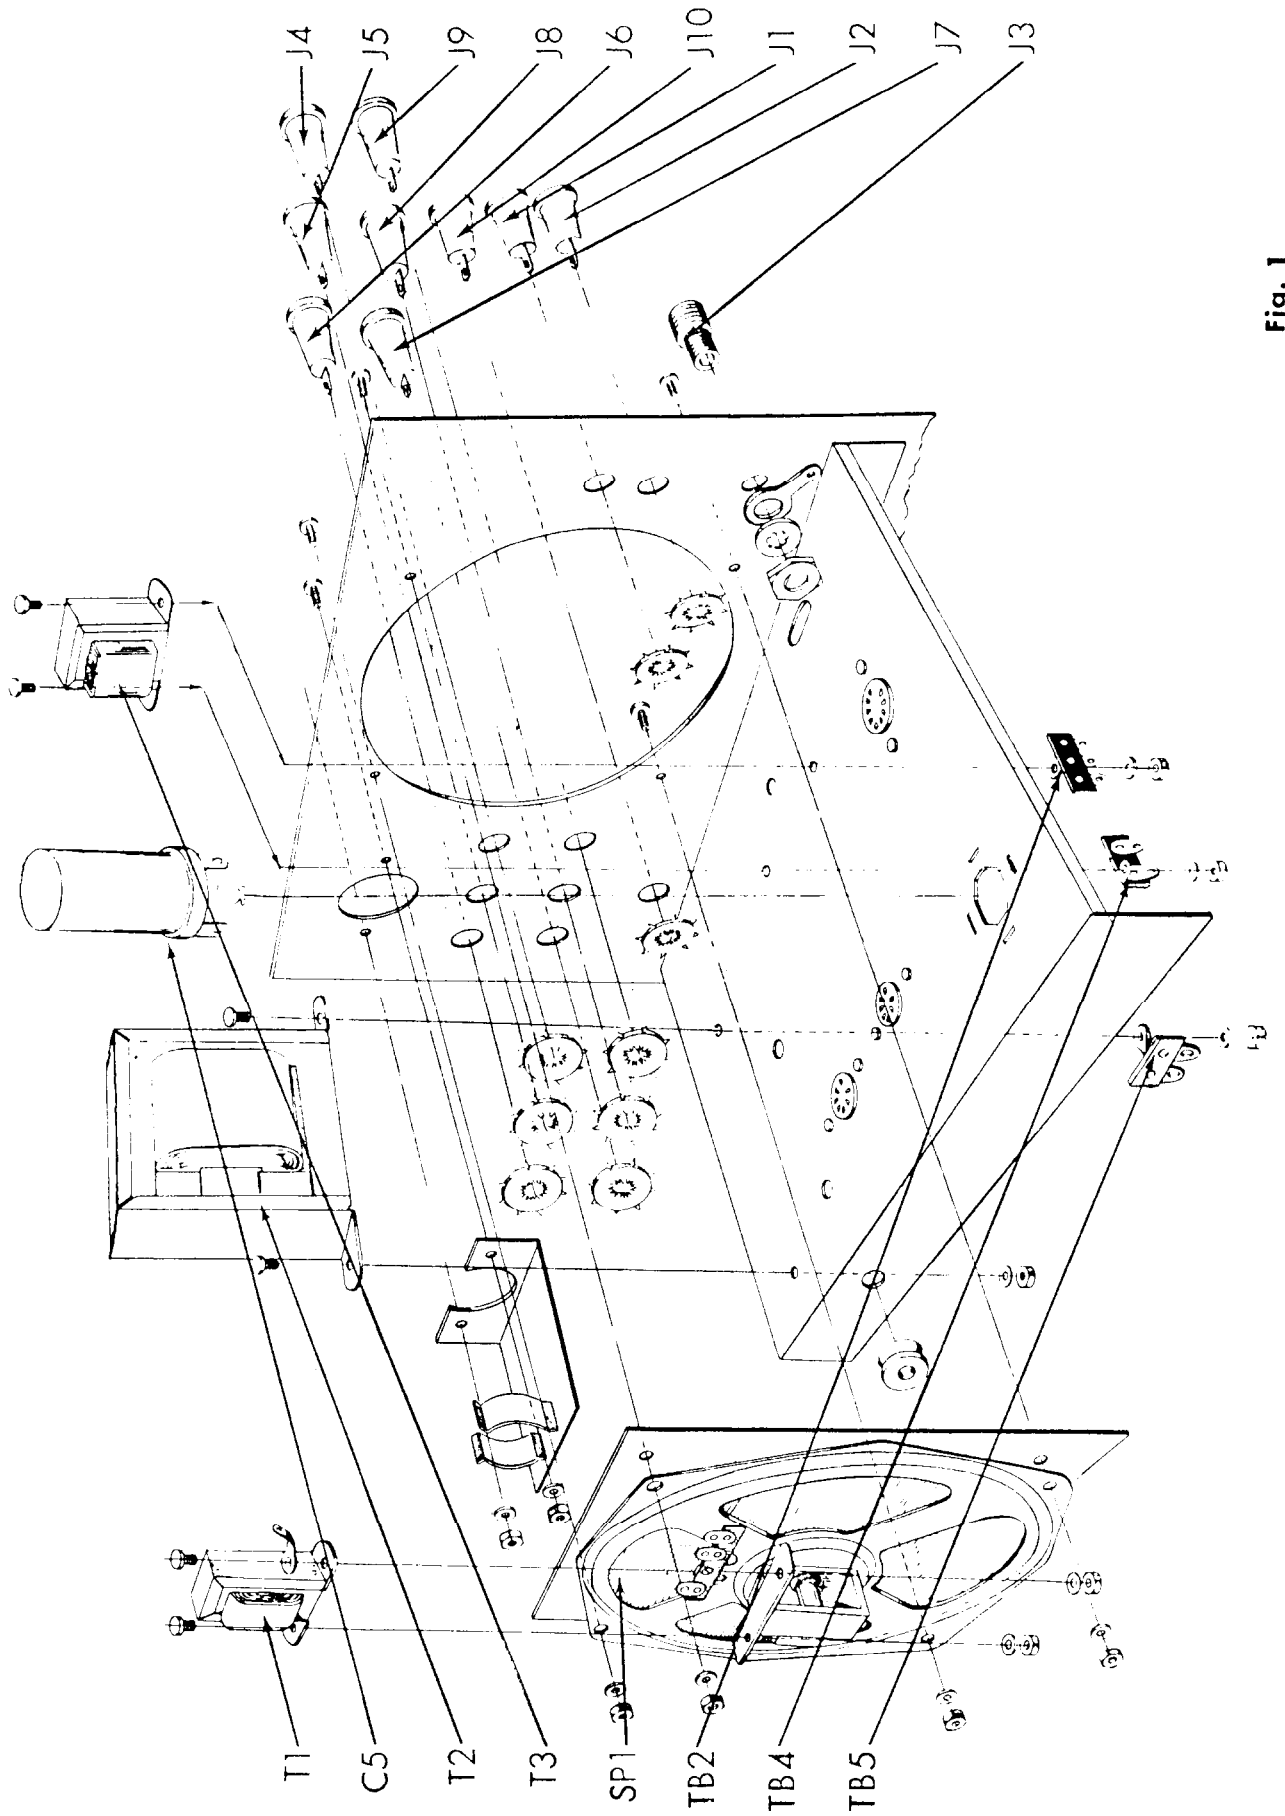
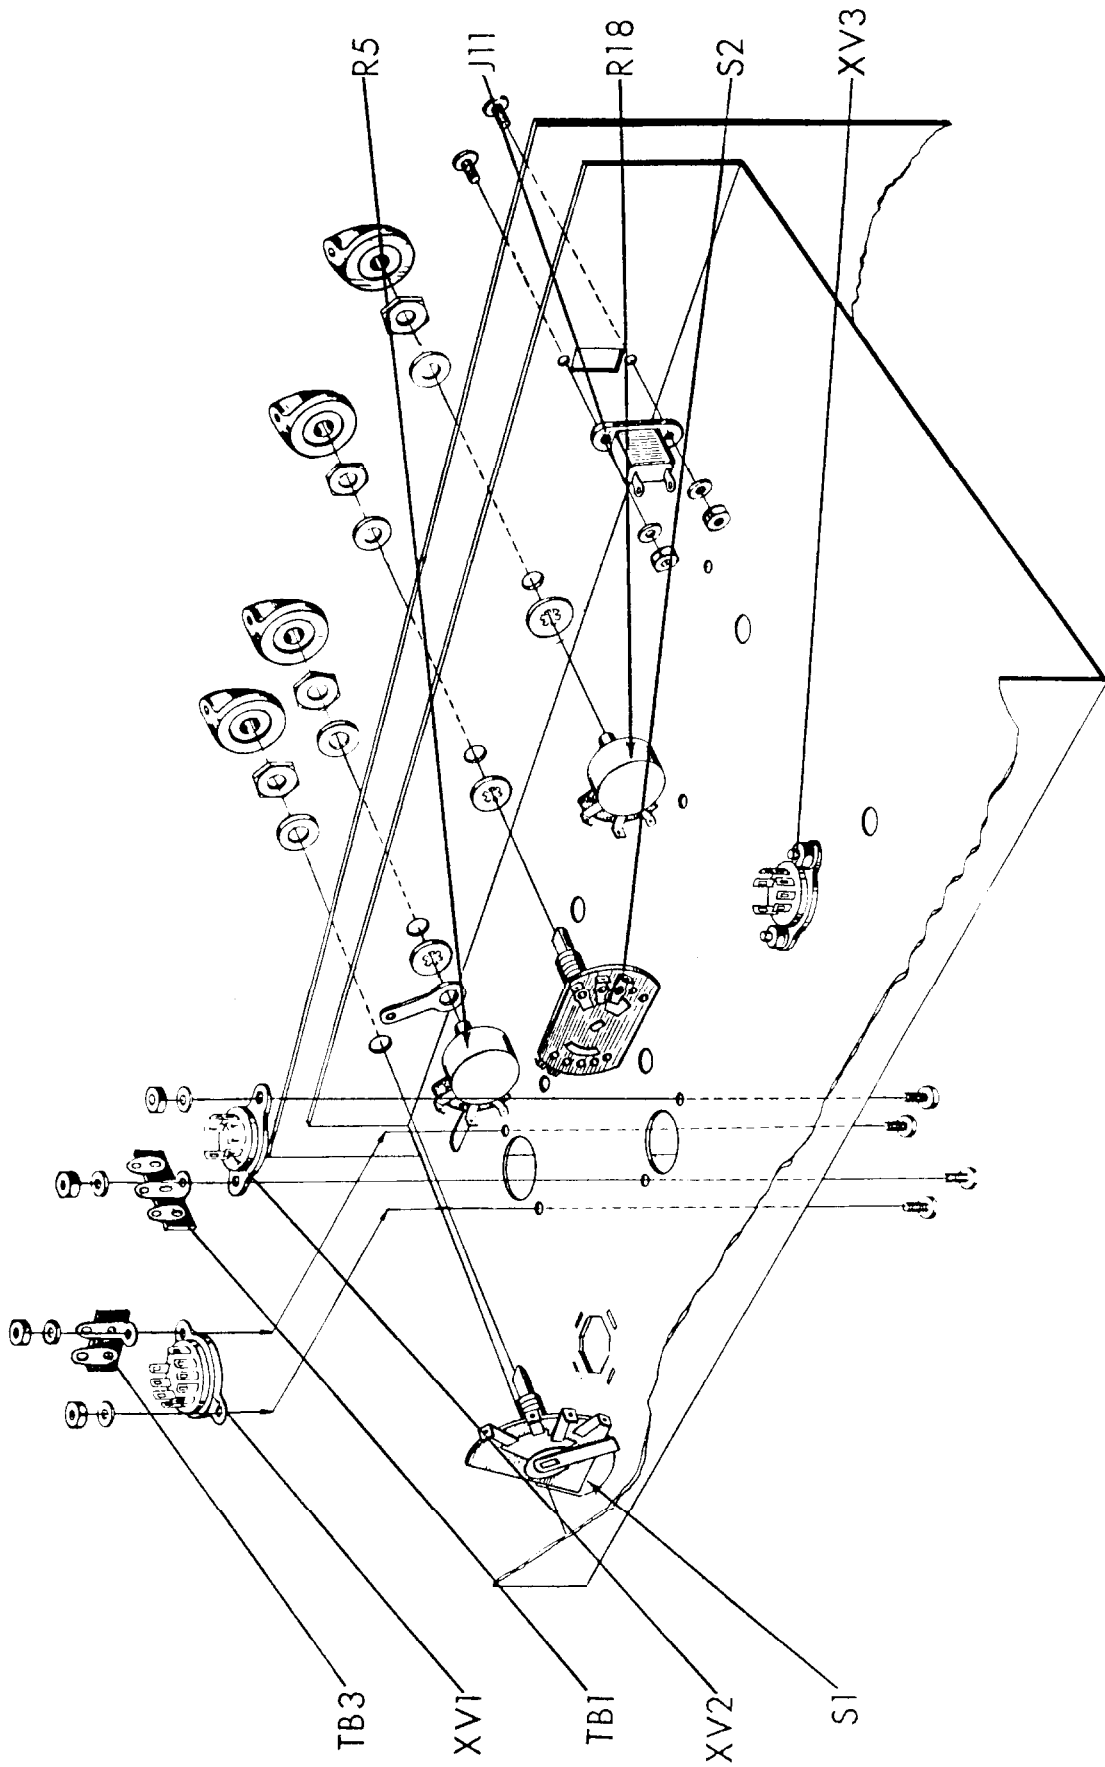
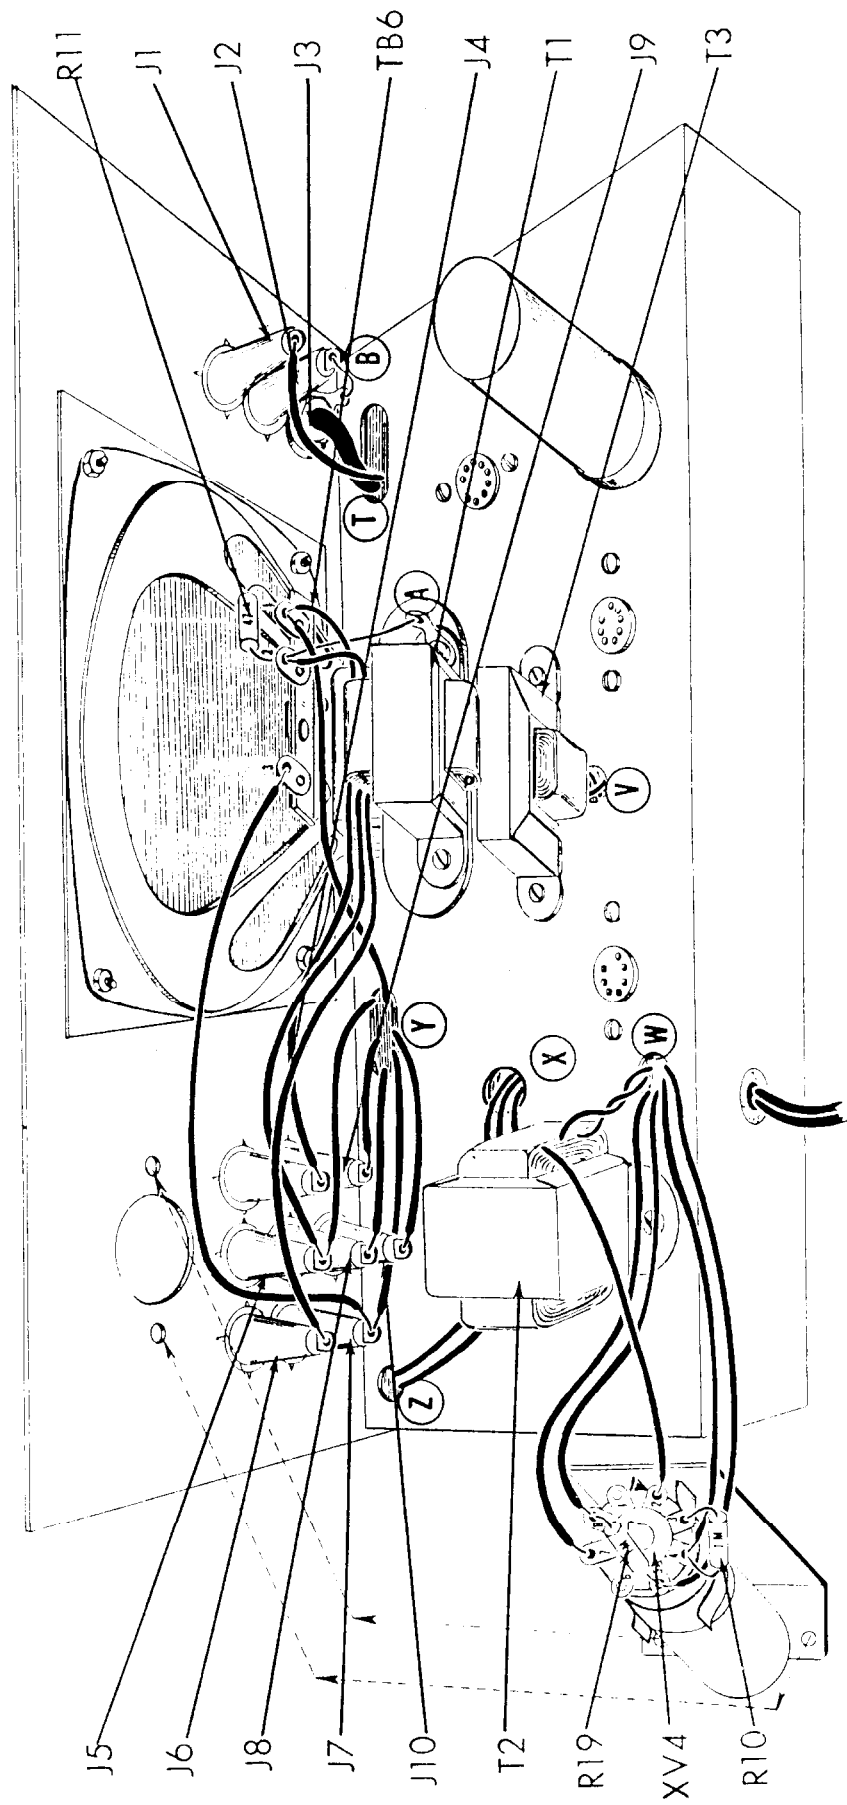
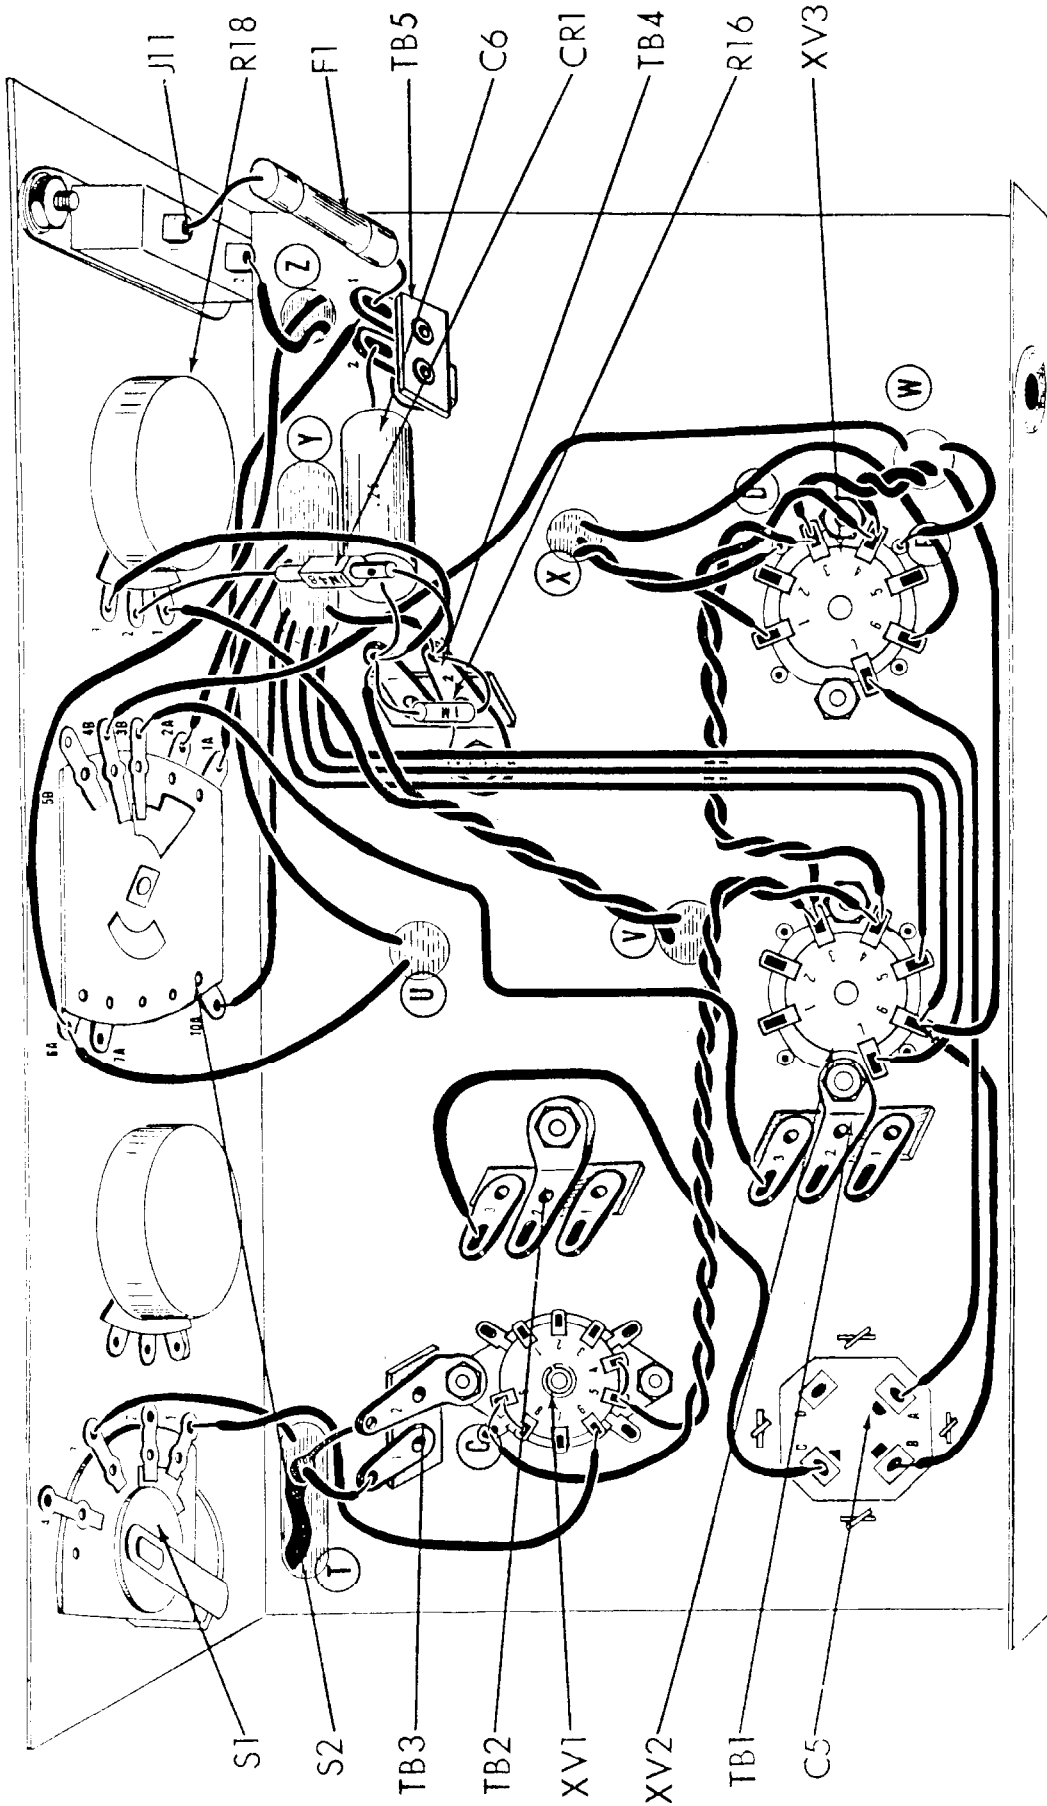

Fig. 1
Fig. 2
Fig. 3
Fig. 4
1. () Fig. 1. From the front side of the panel, push a red pin jack, J1, through the top of the two holes marked AUDIO INPUT. From the rear side of the panel, force a star washer over the pin jack, with the rounded (convex) side facing away from the panel. Push the star washer over the pin jack until the pin jack is secured against the panel.
2. () Fig. 1. Similar to the above, mount the black pin jack, J2, directly below the red one. In a similar manner, on the left hand side of the panel, mount OUTPUT TRANSFORMER red pin jacks, J4, J5, J6; mount TEST SPKR. GND, TEST AMP, VTVM SCOPE black pin jacks, J7, J8, J9, J10. Use one star washer over each to secure to panel.
3. () Fig. 1. Mount RF input connector, J3, as shown. Use ground lug, 2 lock washers and nut supplied with connector. Do not use fiber washers supplied with connector.
4. () Fig. 1. Mount the bracket to hold the eye tube as shown. Use two 6-32 screws, two #6 lockwasher and two 6-32 hex nuts. For the convenience of drawing, this socket is shown pushed away from the panel in Fig. 3. As shown in Fig. 3, push the 1629 eye tube V4, gently but firmly, into the bracket with the front of the tube flush against the panel. Push an octal socket over the pins of the tube, noting the key in the center of both tube base and socket. The tube should be turned in its bracket until the key faces directly downward.
5. () Fig. 1. Mount the speaker, SP1, on the front panel using four #6-32 screws, four #6 lock washers and four #6-32 hex nuts. Between the speaker and the panel, place the speaker grill. The screws holding the speaker must first pass through the holes in the grill.
6. () Fig. 1. Mount the output transformer, T1, to the bracket on top of the speaker. The leads on the transformer face the panel and speaker. Use two #6-32 screws, two #6 lock washers and two #6-32 hex nuts. Under one of the screws, mount a #6 ground lug as shown.
7. () Fig. 1. On the top of the chassis (not attached to the panel as yet) mount power transformer, T2, as shown. As shown in Fig. 3, the black leads face the side of the chassis and all the other leads face the center of the chassis. Use two #6-32 screws, two #6 lock washers and two #6 hex nuts. Under one of the lock washers, mount a 1 post left with ground terminal board, TB5 (under the chassis), as shown in Fig. 4.
8. () Fig. 1. On the top of the chassis mount current transformer, T3, as shown. The red leads go through the hole at the center of the chassis. Use two #6-32 screws, two #6 lock washers and two #6-32 hex nuts. Under one lock washer mount a two post with ground terminal boards, TB2; under the other lock washer mount a one post left with ground terminal board, TB4, as shown in Fig. 4.
9. () Fig. 1. On the top of the chassis mount electrolytic capacitor can C5 as shown. Note the direction (half moon, square and triangle near the lugs) for mounting capacitor in Fig. 4. Insert the mounting tabs into the slots in the chassis and twist the tabs somewhat less than a quarter turn. DO NOT twist the tabs excessively or they will shear off. Solder the tab without a hole to the chassis at its slot.
10. () Fig. 1. Push the 3/8 rubber grommet through hole on rear apron of the chassis.
1. () Fig. 2. Mount 9 pin miniature tube socket XV1 as shown. Use two #4-40 screws, two #4 lockwashers and two #4-40 hex nuts. Note direction of mounting from figure 4. Under one of the lockwashers, mount a one post left with ground terminal board, TB3, as shown.
2. () Fig. 2. Mount 7 pin miniature tube socket XV2, as shown. Use two #4-40 screws, two #4 lockwashers and two #4-40 hex nuts. Note direction of mounting from figure 4. Under one of the lockwashers mount a two post with ground terminal board, TB1, as shown.
3. () Fig. 2. Mount 7 pin miniature tube socket XV3 as shown. Use two #4-40 screws, two #4 lockwashers and two #4-40 hex nuts. Note direction of mounting from figure 4.
The two pots, two switches and power outlet shown in figure 2 are used to hold the front panel to the chassis. The shafts will extend through the chassis and the corresponding holes in the front panel. In all the following operations the
4. () Fig. 2. Mount the 500K Ω gain pot R5 as shown. Inside the chassis, use a pot grounding lug and a 3/8 lockwasher as shown. Outside the chassis (on the panel) use a 3/8 flatwasher and a 3/8 hex nut. The ground lug is eventually to be soldered to R5-1.
5. () Fig. 2. Mount the 50K Ω wattmeter pot, R18, as shown. Similar to the above (but less a pot ground lug) use a 3/8 lockwasher, one 3/8 flatwasher and one 3/8 hex nut.
6. () Fig. 2. Mount input selector switch S1, (60053) and output selector switch S2, (60054) as shown. Similar to the above, use one 3/8 lockwasher, one 3/8 flat washer and one 3/8 hex nut on each.
7. () Fig. 2. Mount the power socket, J11, as shown. Use two #6-32 x 3/8 screws outside the chassis (on the panel) and two #6 lockwasher and two #6-32 hex nuts inside the chassis.
1. () Fig. 3. On power transformer, T2, cut the upper black lead to 4" and the lower black lead to 7 1/2". Push both leads through hole "Z" in the chassis.
2. () Fig. 3. On power transformer, T2, cut green, green-yellow and brown leads to 3". Connect the brown lead to XV4-2 (S) and push the green and green-yellow leads through hole "W" in the chassis.
3. () Fig. 3. On power transformer, T2, cut the two red and the red-yellow lead to 3 1/2". Push these leads through hole "X" in the chassis.
4. () Fig. 3. On wattmeter transformer, T3, cut one red to 3" and the other red lead to 4 1/2". Push both leads through hole "Y" in the chassis.
5. () Fig. 3. On wattmeter transformer, T3, cut one black lead to 3" and the other black lead to 6". Push both leads through hole "U" in the chassis (see fig. 2).
6. () Fig. 3. On output transformer, T1, cut the red and brown leads to 4" and the blue lead to 4 1/2". Connect the brown lead to J4 (C), the red lead to J5 (C) and the blue lead to J6 (S).
7. () Fig. 3. Connect a 2" piece of bare wire from ground lug "A" (S) to TB6-2 (C).
8. () Fig. 3. Cut both enameled leads on output transformer, T1, to 1" and scrape the enamel off both leads for 1/4" from the end. Cover both leads with 3/4" pieces of spaghetti. Connect the lower lead to TB6-2 (C) and the upper lead to TB6-1 (C).
9. () Fig. 3. Cut both leads on the 47 Ω (yellow, violet, black, silver) resistor, R11, to 1/2". Connect from TB6-1 (C) to TB6-2 (S).
10. () Fig. 3. Connect one end of an 8" piece of black wire to TB6-1 (S). Push the other end through hole "Y".
11. () Fig. 3. Connect a 6" piece of green wire from TB6-3 (S) to J7 (C).
12. () Fig. 3. Connect one end of a 6" piece of green wire to J7 (S). Push the other end through hole "Y".